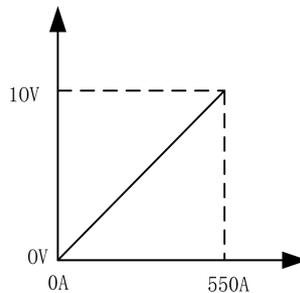

Fig. 4-29 Proportional diagram: preset welding current V.S. value from robot to welding machine
2. The proportional diagram of preset welding current is shown in Fig. 4-29.